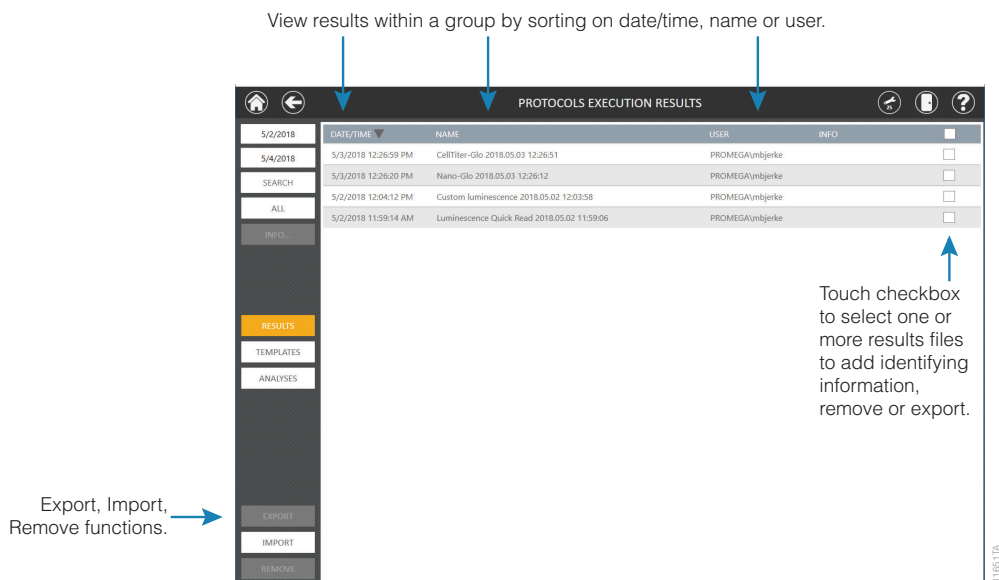

Figure 59. The 'Results, Templates and Analyses' screen.
2. The middle section of the Left Navigation column allows users to toggle the display on this screen between **Results**, **Templates** and **Analyses** (Figure 59).